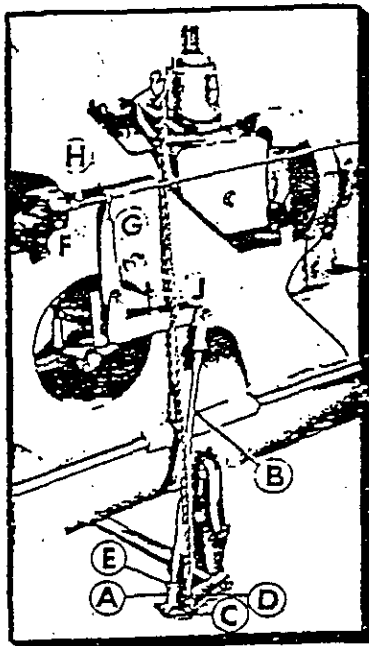

FIG. 3
With the clutches in this neutral position, adjust the rod end (A) Fig. 3 on the rod (B) to where the bolt (C) may be inserted in the rod end and the lever (J). When adjustment is completed, be sure to tighten jam nut (E).
With the engine idling and the control lever on the control stand in neutral position and the nut (F) Fig. 3 about 3/4" from the end of rod (G), adjust the rod to where the spring (H) contacts the nut (F) but does not compress the spring.